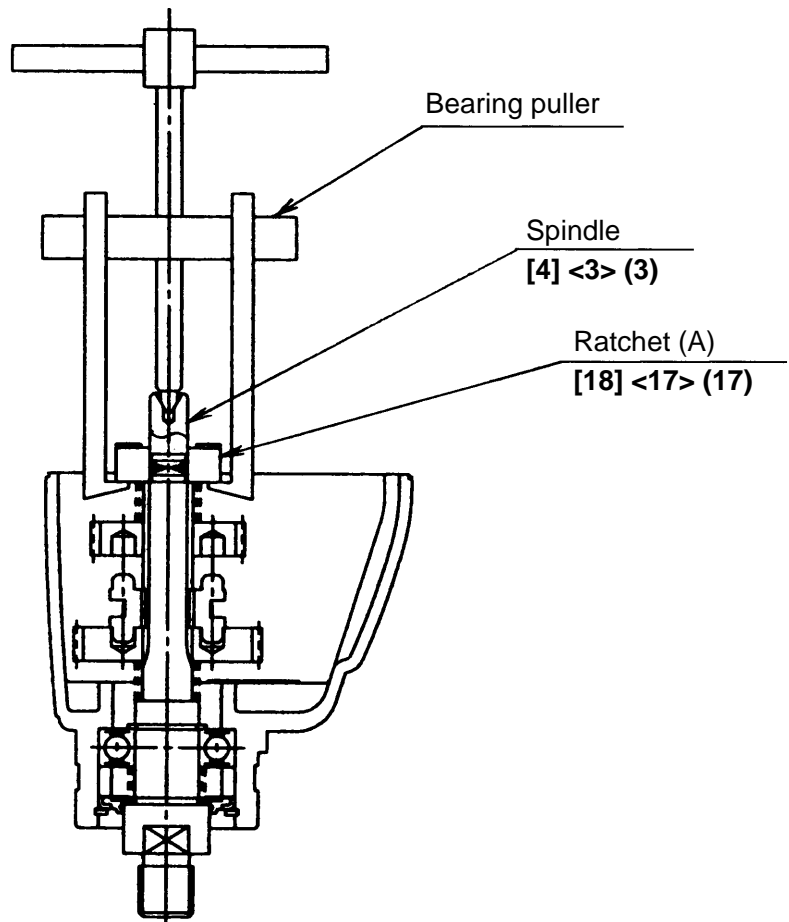

Fig. 12
Remove the Steel Ball [7] <6> (6) and the Second Pinion [24] <23> (23), then remove the Ratchet (A) [18] <17> (17) from the Spindle [4] <3> (3) using the bearing puller as shown in Fig. 12. Ratchet (A) is securely press-fitted to the Spindle, so a considerable amount of force is required to remove Ratchet (A). Do not reuse the removed Ratchet (A) because the press-fitting force between Ratchet (A) and the Spindle will be too low for proper operation.